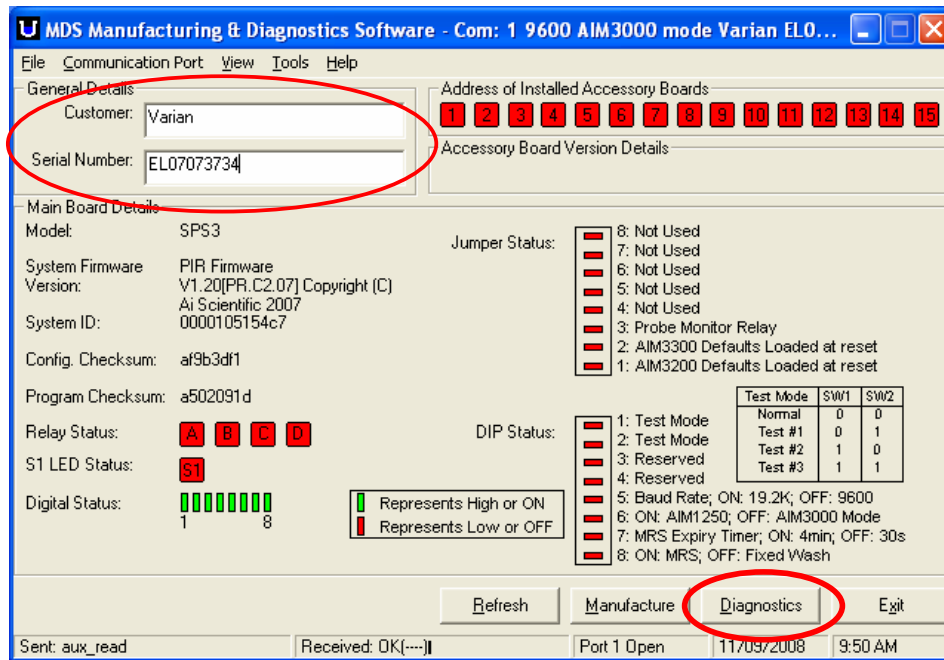
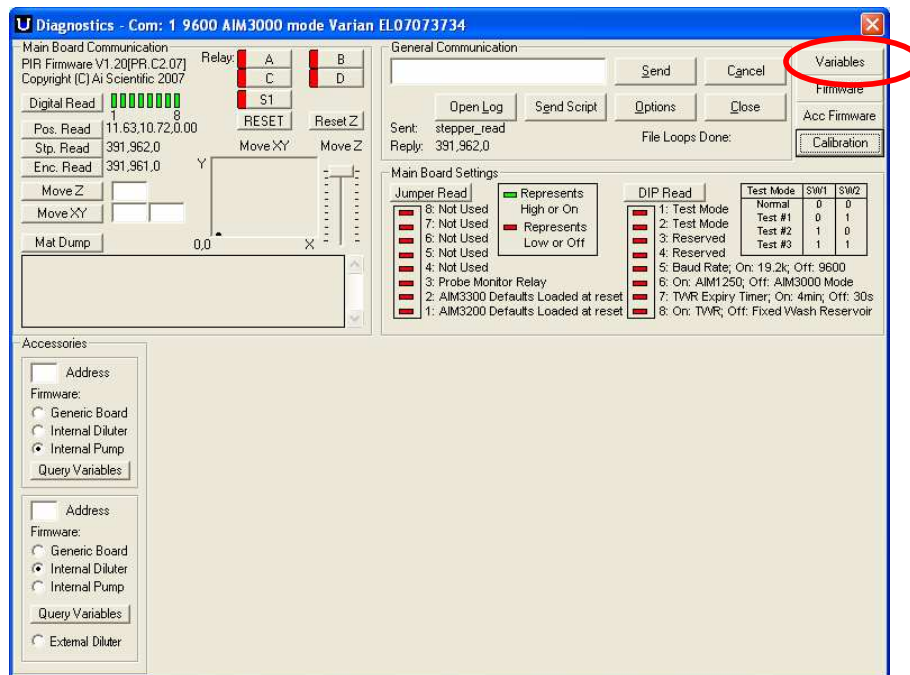

Figure 2: Varian SPS MDS Software Front Page
Figure 3: Diagnostics Section of the SPS Software
2. Once the serial cable is connected to the PC, power up the fraction Collector and allow it to go through it's start up routine. Launch the Varian SPS MDS software, and you should see the screen in Figure 2.
3. Insert the customer Details and Serial number of the unit. Then click the *Diagnosics* Button (Figure 2). You should now see the screen in Figure 3.
4. Select the *Variables* option (Figure 3) and that should open the Calibration Variables Page.